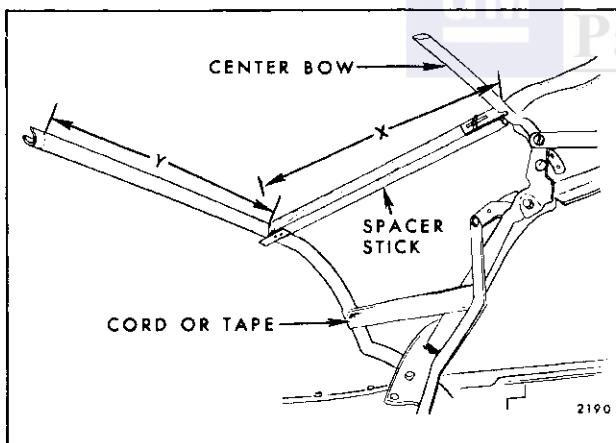
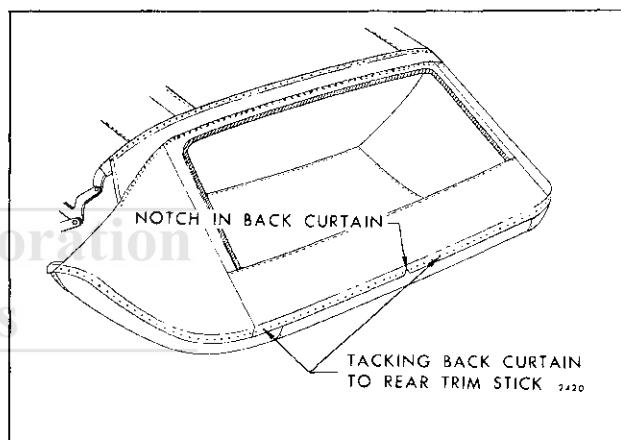

Fig. 13-47—Spacer Stick Installation
Fig. 13-48—Back Curtain Installation
- Preset spacer sticks to shortest length and install between center and rear roof bow (Fig. 13-47). Adjust sticks so that dimension "X" in Figure 13-48 (measured along spacer stick from front upper rolled edge of rear roof bow to center of center bow) is 16-1/16" on "B & C" Styles, 18-1/2" on "A" Styles, 13-3/16" on "F" Styles, and 16-5/8" on "Z" Styles.
NOTE: Notch in back curtain material at lower edge indicates centerline of back curtain assembly. (See Fig. 13-48.) In addition, back curtain lower edge should extend approximately 1/2" below lower edge of trim sticks.
- Tack curtain to rear trim sticks (Fig. 13-48).